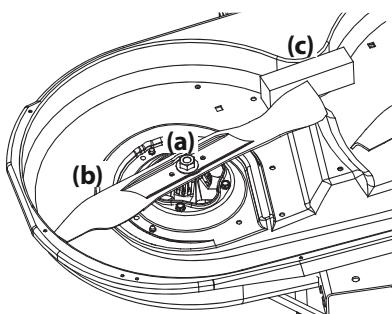

Figure 46
2. Use a $1\frac{1}{16}$ " wrench to hold the hex nut on top of the spindle assembly when loosening the hex nut (a) securing the blade (b). A block of wood (c) may be placed between the deck housing and the cutting edge of the blade (b) to help in breaking loose the hex nut (a) securing the blade. See Figure 46.